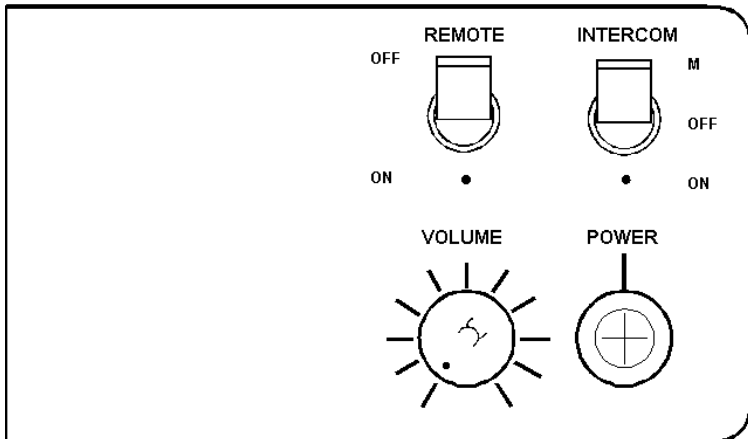

Figure 3 - Control Panel With Remote Option
- Standard Station with Remote Option** - In addition to the LED **POWER** indicator, there is a **REMOTE ON/OFF** switch, an **INTERCOM ON/OFF/Momentary** switch and a **VOLUME** control (see Figure 3).